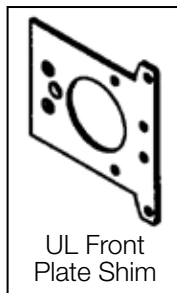

Figure 3
**NOTE: For UL Exit Device use UL Front Plate Shim(s). (Figure 3)**